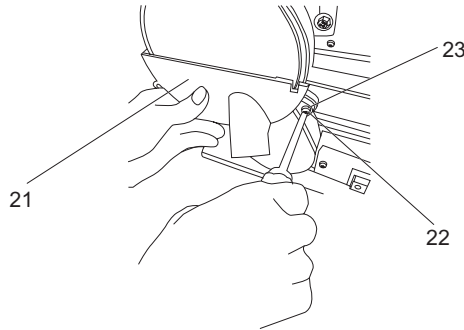

Fig. 9
- > Position disc guard (21) against the lower one-third of the disc, aligning two holes as shown in figure 9.
- > Using the two screws M4 x 14mm (22) and flat washers M4 (23) securely tighten the disc guard (21) into place.